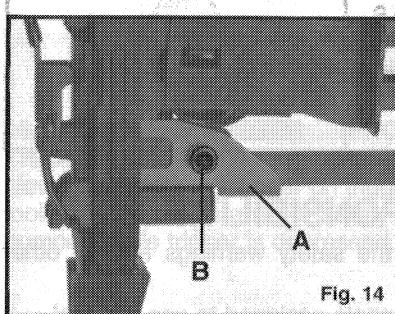
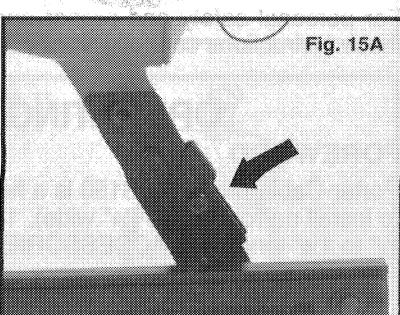

Fig. 14
Fig. 15A
A Staple Guide (A) Fig. 14, is factory installed on Model NSS150. The Guide is held in place with a bolt (B) Fig. 14. The Staple Guide **must** be used whenever driving staples that are less than  $1\frac{1}{8}$ " long. The Staple Guide **must** be removed when driving staples that are  $1\frac{1}{8}$ " or more in length.
To remove the Staple Guide: remove the bolt (B) Fig. 14 and slide the Staple Guide out of the machine. Store the Staple Guide and the bolt for future use. When not in use, the fastener guide may be stored by attaching it to the rear bracket as shown in Fig. 15A.